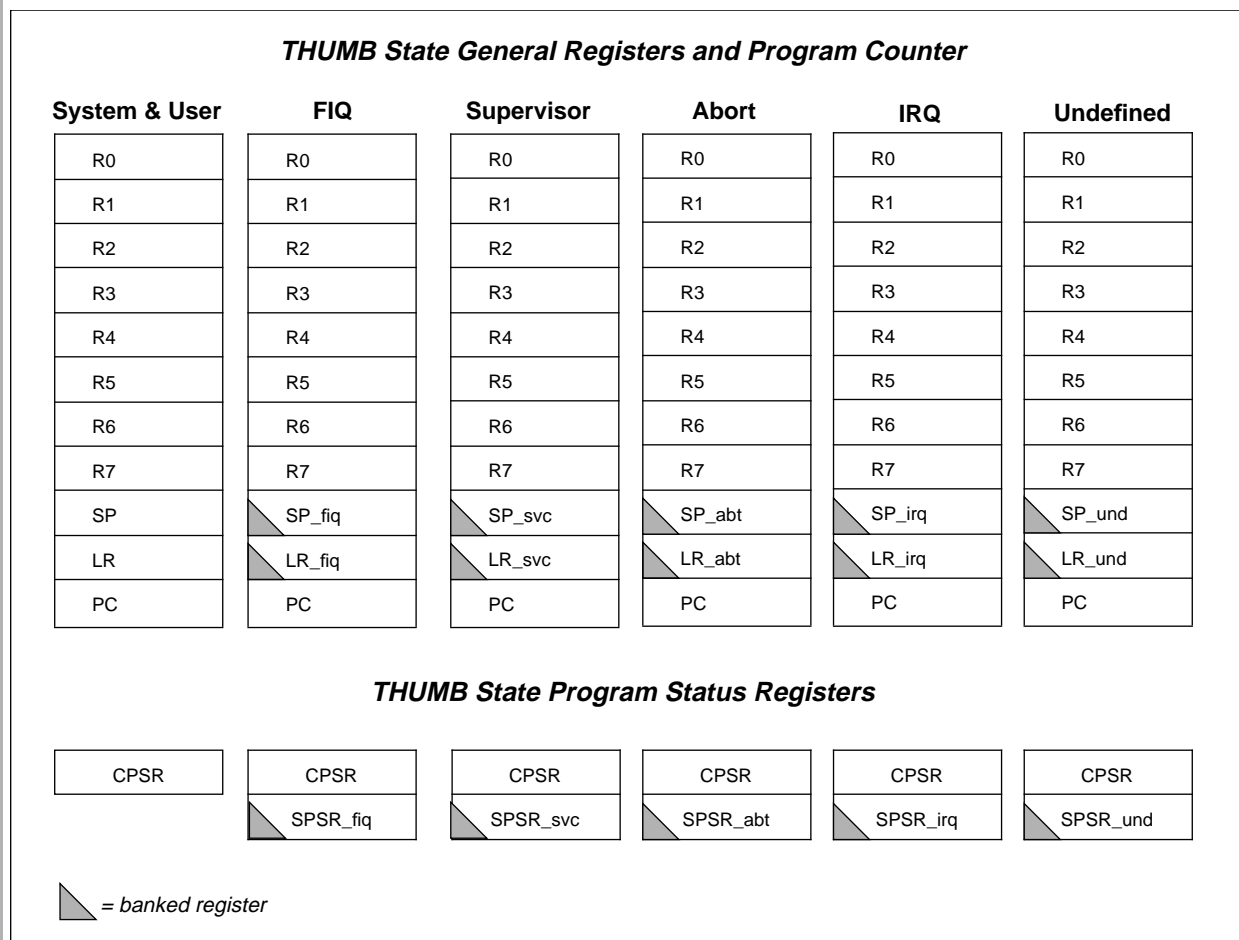

Figure 3-4: Register organization in THUMB state
The THUMB state register set is a subset of the ARM state set. The programmer has direct access to eight general registers, R0-R7, as well as the Program Counter (PC), a stack pointer register (SP), a link register (LR), and the CPSR. There are banked Stack Pointers, Link Registers and Saved Process Status Registers (SPSRs) for each privileged mode. This is shown in **Figure 3-4: Register organization in THUMB state**.